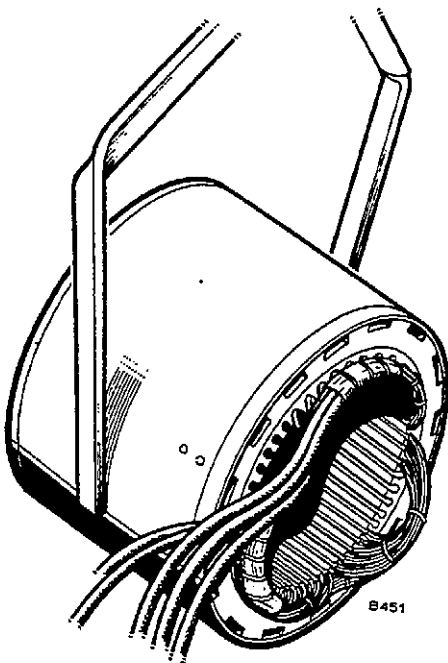

FIGURE 60. REVOLVING STATOR FOR REPAIRS
7. While stator is still on lift tongs or hooks, revolve stator to horizontal position and set it down on its side, Figure 60.